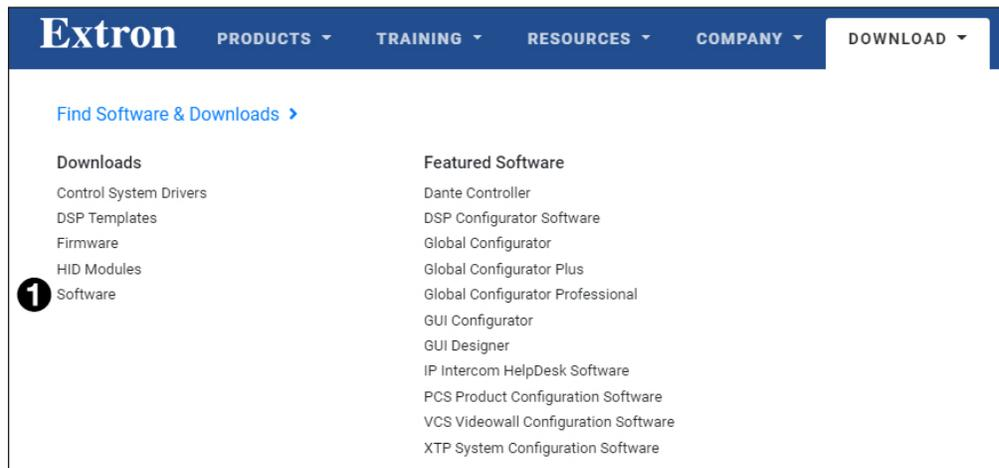

Figure 20. Extron Website Download Page
1. On the Extron website, go to the **Download** tab and click **Software** (see figure 20, ❶).